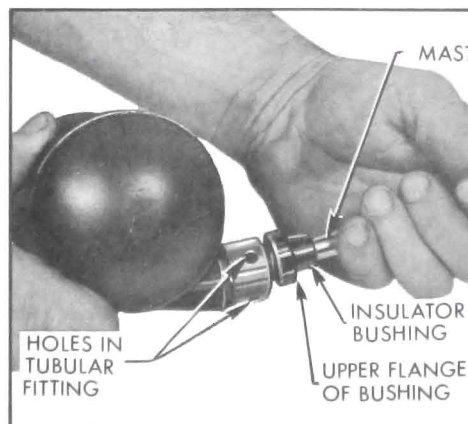

Figure 11-13—Removing and Installing Mast and Insulator Bushing
IMPORTANT: Before work is started on the antenna, determine if the antenna is in the warranty period which is 24,000 miles or two years, whichever occurs first. If the antenna is in warranty do not attempt service on components of the antenna drive (see Figure 11-13) as it will void the warranty.
7. Holding antenna drive in one hand and the mast in other hand, pull with a rocking motion, until the insulator bushing and mast are free from the tubular fitting of antenna drive (see Figure 11-13).
22. Push 0.40 inch diameter section of mast and insulator bushing into tubular fitting (see Figure 11-13). Make sure that the upper edge of insulator bushing flange is below the 3 holes in the tubular fitting of antenna drive.